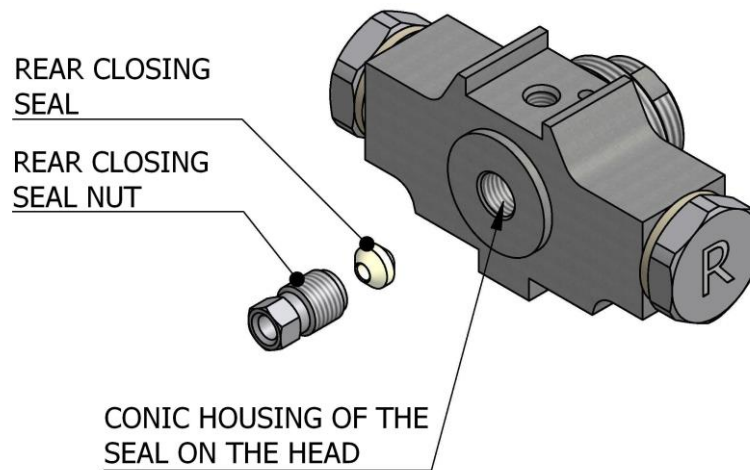

Figure. 16
6. Loosen the rear seal nut completely by turning it anti-clockwise (see **Figure. 16**). Clean the conic housing of the nut with paper dampened in gun-cleaning solvent. Do not use metal elements to clean the conic housing, a scratch on the surface could cause it to close badly with the module and this might cause leaks of the chemical products.
7. Remove the rear closing seal and clean it with gun-cleaning solvent or replace it if it is very worn (see **Figure. 16**).
18. Completely unscrew the nut of the rear closing seal by turning it clockwise (see **Figure. 16**, page 16).